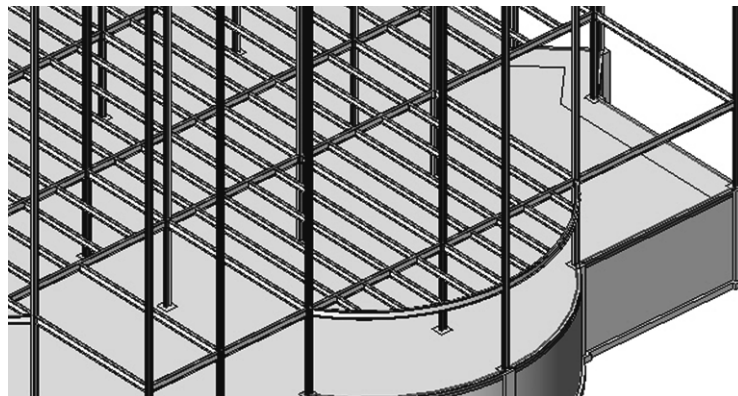

Figure 7-17
5. Click inside each bay, ensuring that the beams are running in a West-East direction. Exclude the bays shown in Figure 7-17.